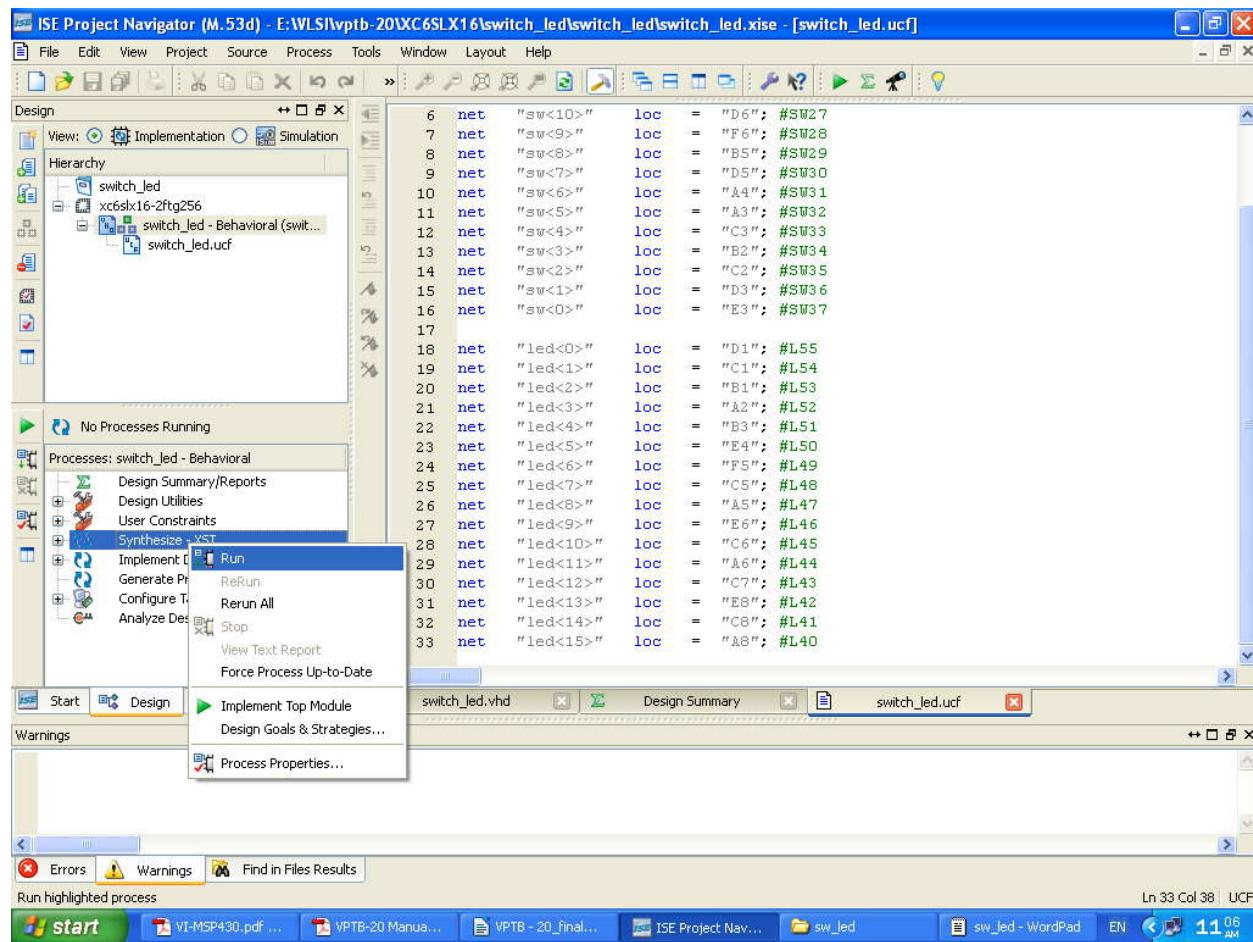

Figure-26
11. To download the program into **Boundary Scan** mode, do the following steps. Come to **Project Navigator** window and click **SYNTHESIZE-XST** and when synthesis is completed successfully, click **IMPLEMENT DESIGN** in process for current source. After implement design has become successful, click **GENERATE PROGRAMMING FILE** and then click **Configure Device (iMPACT)** (refer Figure-26, 27, 28, 29, 30).